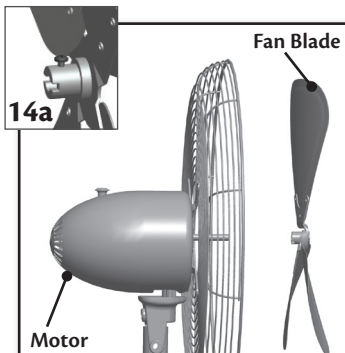

Figure 14
4. Loosen the screw on the back of the Blade assembly. Figure 14a. Slide the Blade assembly onto the motor shaft. Figure 14.